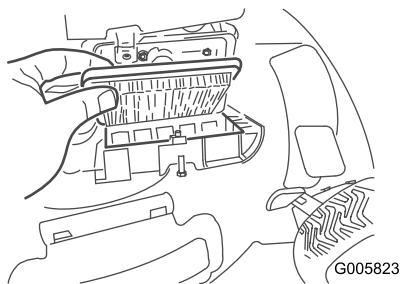

Figure 17
2. Replace the air filter (Figure 17).